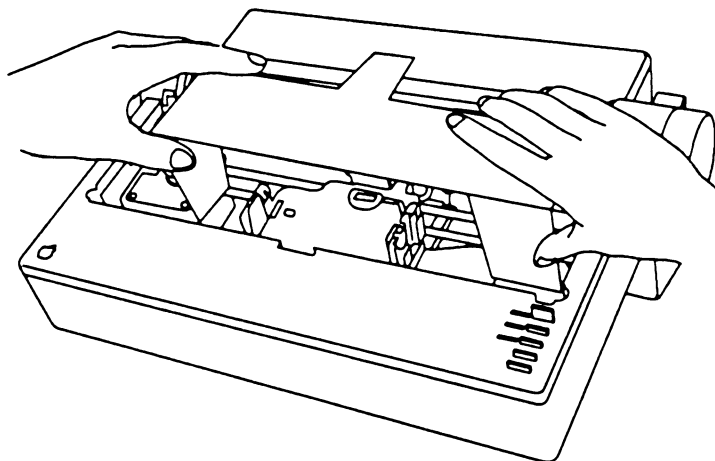

Figure 2. Removing the cardboard retainer
5. Remove the cardboard retainer, as shown in Figure 2.